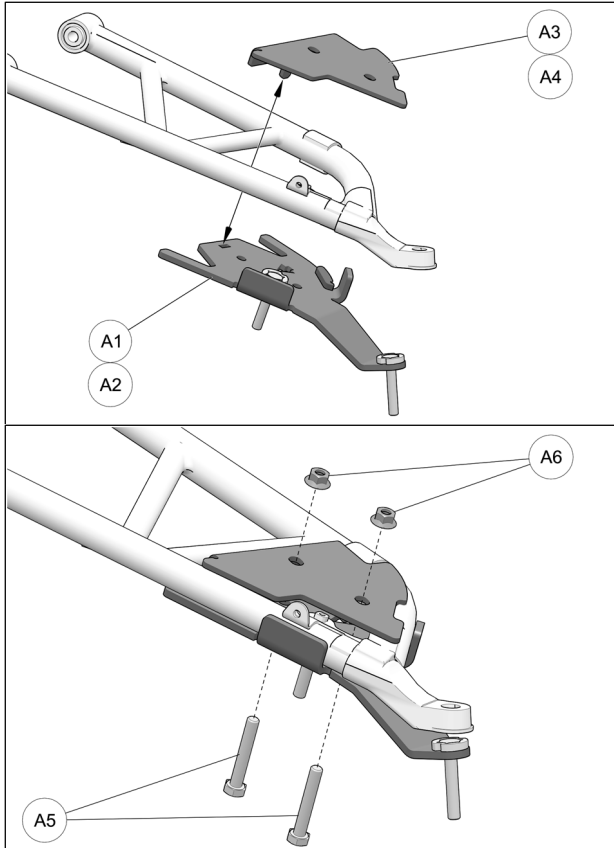

Fig. 21
10. Position bottom part of anchor bracket (A1-A2) assembly under front lower suspension arm, as shown in the figure below. Position bracket cover (A3-A4) over suspension arm and insert tenon, located at the back, in mortise cut in bottom part. Align holes in cover and bottom part. Insert M10x65mm bolts (A5) through bottom and secure the two parts together with nuts (A6) provided. Tighten assembly to 50 N•m [37 lb•ft] of torque. Refer to Fig. 21